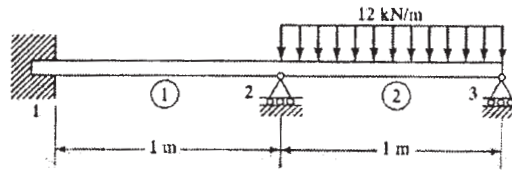

Figure 4
- Q3)** A continuous beam (Figure 4) has fixed support at node 1 and roller supports at nodes 2 and 3. Analyse the beam using finite element method and draw SFD and BMD. Take $E = 200 \text{ GPa}$ and $I = 4 \times 10^6 \text{ mm}^4$. [18]